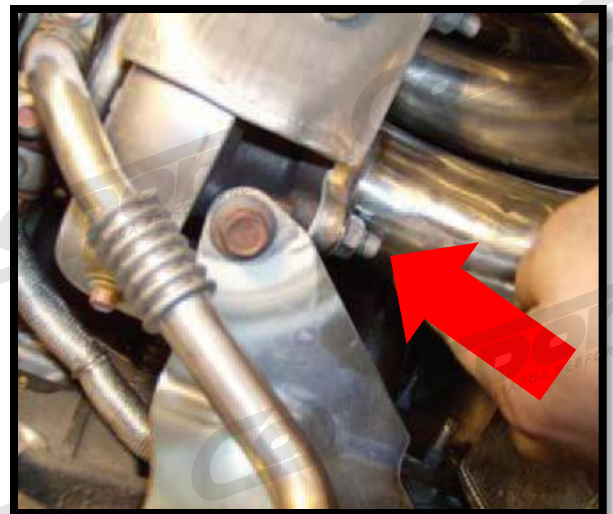

Figure 3a
- 3b) Install the CorkSport downpipe from the bottom of the car onto the studs of the turbo and install the bottom-forward nut while installing the downpipe, leave loose (See Figure 3a)
B) From the bottom of the car install the new CorkSport downpipe onto the studs of the turbo with the original or new gasket. Put some anti seize on the studs to make installation of the nuts easier. Once the downpipe is on the studs, install one nut on the lower-forward stud shown in **Figure 3a**. YOU MUST install this nut before tightening the rest or there will not be enough clearance between the downpipe and stud to insert the nut. Leave the nut a little loose to give you some room to continue installing the downpipe.